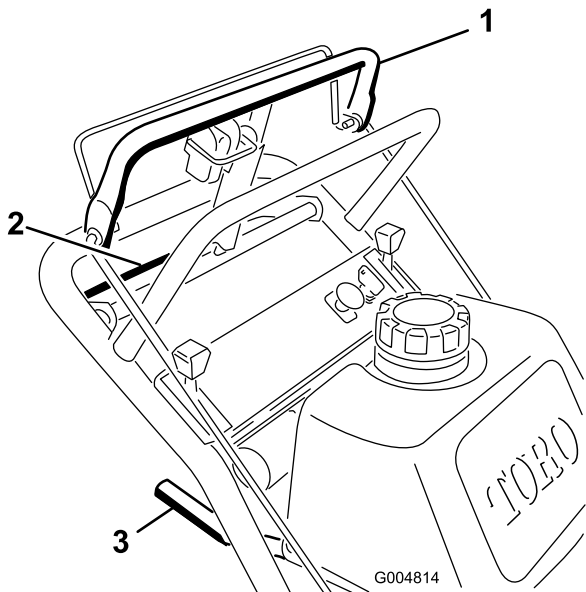

Figure 10
- To go forward, move the shift lever to a forward gear (Figure 10).
- Slowly press on the upper control bar to move forward (Figure 10).
To go straight, apply equal pressure to both ends of the upper control bar (Figure 10).
To turn, release pressure on the upper control bar side in the direction you want to turn (Figure 10).
3. Slowly squeeze the lower control bar and lower handle together to move rearward (Figure 10).
7. At the same time, engage the lower control bar and lift up on the lower handle to drive over the curb (Figure 10 and Figure 11).
4. At the same time engage lower control bar and lift up on the lower handle (Figure 10 and Figure 11).